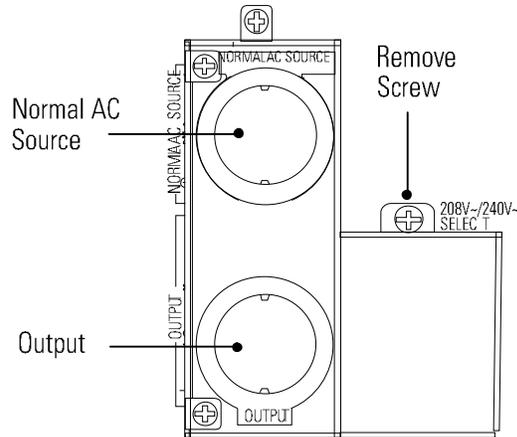

Figure 21. Remove the Voltage Selection Terminal Block Cover
1. On the 9PXTFMR11 rear panel, remove and retain the Phillips-head screw and voltage selection terminal block cover (see Figure 21).